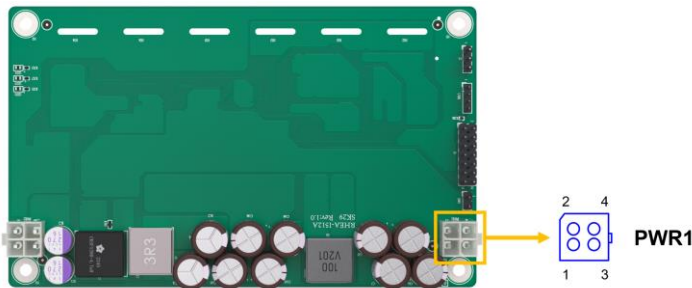

Figure 3-4: Power Input Connector Location
- CN Location:** See **Figure 3-4**